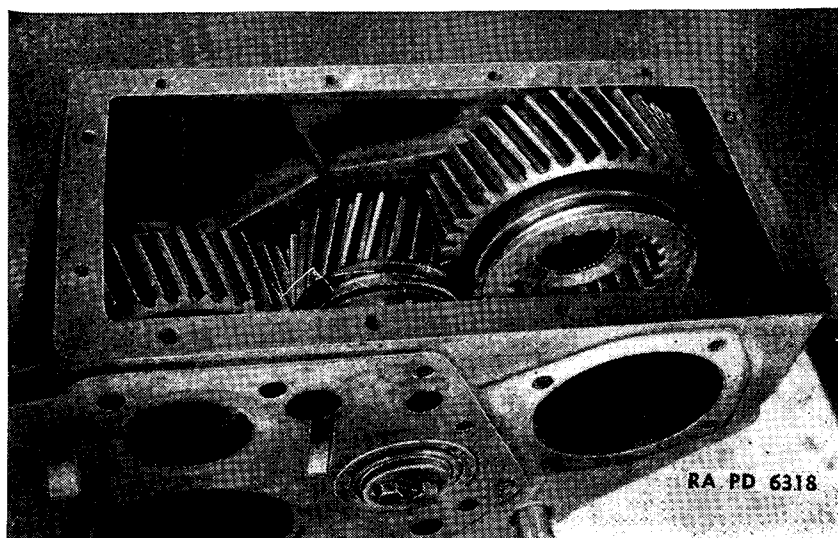

FIGURE 135. Transfer case front-drive shaft gear replacement.
(11) Replace intermediate shaft rear bearing cap—brass drift, hammer,  $\frac{5}{8}$ -inch socket wrench. Replace bearing cup in rear bearing cap and assemble bearing cap and shims to case with four cap screws and lock washers.
(12) Replace intermediate shaft front bearing cup—brass drift, hammer. Set cup in place and tap until almost flush with case.
(13) Replace front-drive shaft gear needle bearings. Grease bore of gear with heavy grease and install 106 short needle bearings in two rows with spacer between (fig. 135).
(14) Replace front-drive shaft. Assemble front-drive shaft collar with front-drive shaft gear. Shoulder of collar sets into recess in